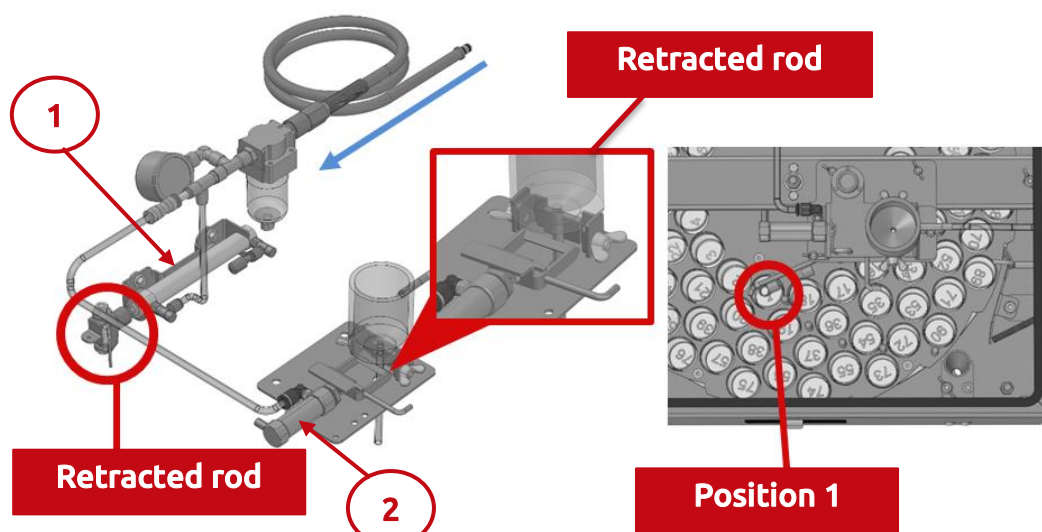

Figure 65. Air pressure on
With activated air pressure from the robot, the cylinder (1) retracts the rod, the cylinder (2) retracts the rod and fills the bottle. The dispenser changer tube is still in position 1. (See Figure 65)